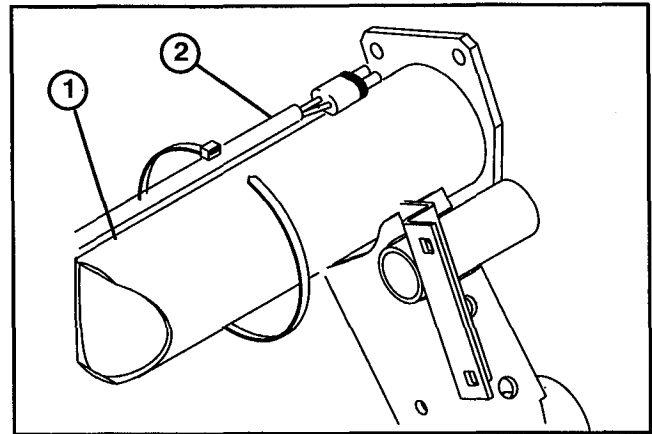

Figure 7
33. Route remaining connector along accelerator cable, around air cleaner toward jackshaft support tube (Fig. 7).